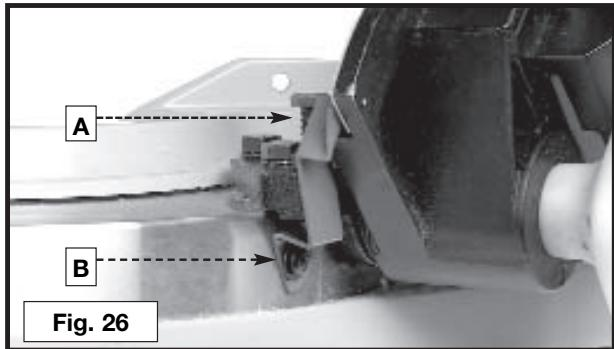

Fig. 26
7. Check to see that the bevel pointer (A) Fig. 26 is pointing to the 45° mark on the bevel scale. To adjust the bevel pointer (A), loosen the screw (B) and adjust the pointer (A). Tighten the screw (B) securely.